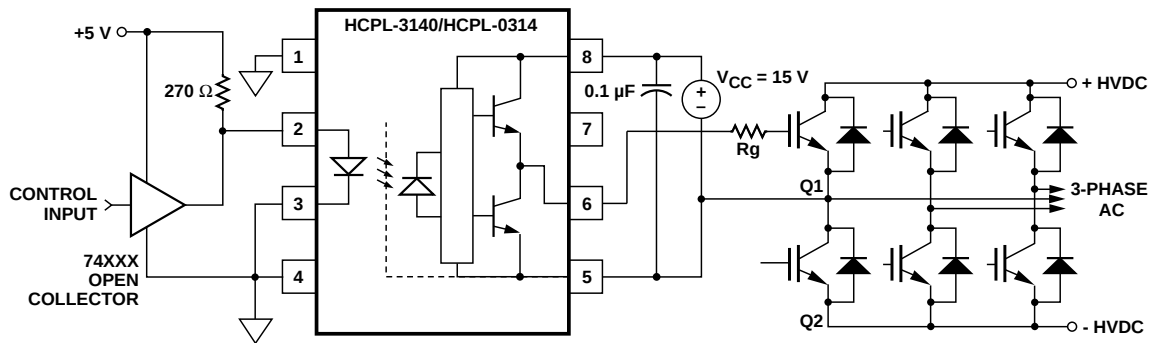
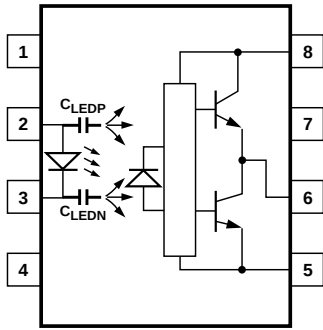
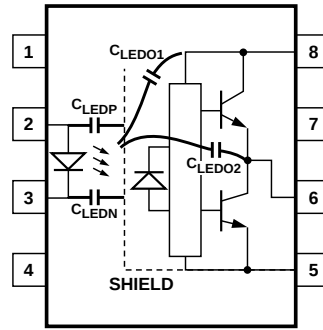

Figure 19. Recommended LED Drive and Application Circuit for HCPL-3140/HCPL-0314.
Figure 21. Optocoupler Input to Output Capacitance Model for Unshielded Optocouplers.
Figure 22. Optocoupler Input to Output Capacitance Model for Shielded Optocouplers.
HCPL-3140/HCPL-0314 on a small PC board directly above the IGBT) can eliminate the need for negative IGBT gate drive in many applications as shown in Figure 19. Care should be taken with such a PC board design to avoid routing the IGBT collector or emitter traces close to the HCPL-3140/HCPL-0314 input as this can result in unwanted
Step 1: Calculate Rg minimum from the IOL peak specification. The IGBT and Rg in Figure 19 can be analyzed as a simple RC circuit with a voltage supplied by the HCPL-3140/HCPL-0314.
where $K_{ICC} \cdot Qg \cdot f$ is the increase in ICC due to switching and K_{ICC} is a constant of 0.001 mA/(nC*kHz). For the circuit in Figure 19 with IF (worst case) = 10 mA, Rg = 32 Ω, Max Duty Cycle = 80%, Qg = 100 nC, f = 20 kHz and TMAX = 85°C:
Without a detector shield, the dominant cause of optocoupler CMR failure is capacitive coupling from the input side of the optocoupler, through the package, to the detector IC as shown in Figure 21. The HCPL-3140/HCPL-0314 improves CMR performance by using a detector IC with an optically transparent Faraday shield, which diverts the capacitively coupled current away from the sensitive IC circuitry. However, this shield does not eliminate the capacitive coupling between the LED and opto-coupler pins 5-8 as shown in Figure 22. This capacitive coupling causes perturbations in the LED current during common mode transients and becomes the major source of CMR failures for a shielded optocoupler. The main design objective of a high CMR LED drive circuit becomes keeping the LED in the proper state (on or off) during common mode transients. For example, the recommended application circuit (Figure 19), can achieve 10 kV/μs CMR while minimizing component complexity.
supplied by the LED, and it is not recommended for applications requiring ultra high CMR_L performance. The alternative drive circuit which like the recommended application circuit (Figure 19), does achieve ultra high CMR performance by shunting the LED in the off state.